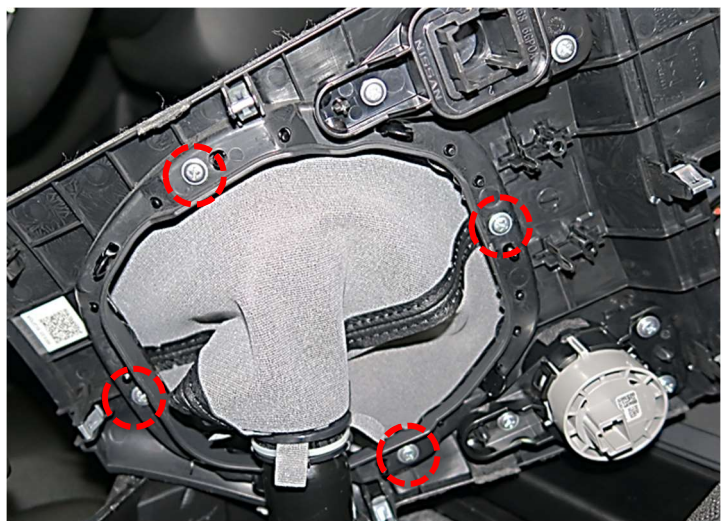

Figure 48
43. Install the (4) screws securing the the trim ring to the shifter finisher.
- Lift the shifter finisher upward and install the (4) screws shown in Figure 48